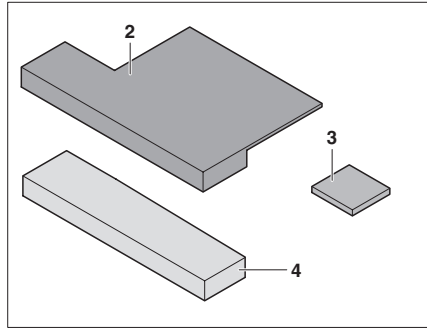

Fig. 115 Additional cushion
- If available, attach the seat wedge (Fig. 115,3) to the additional cushion (Fig. 115,2) (with hook and loop fastener).